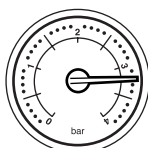

Fig. 16
3. A pressure of 3 or greater indicates a fault. The safety pressure relief valve will operate, at a pressure of 3 (Fig. 16). **It is important that your Installer or Service Engineer is contacted as soon as possible.**